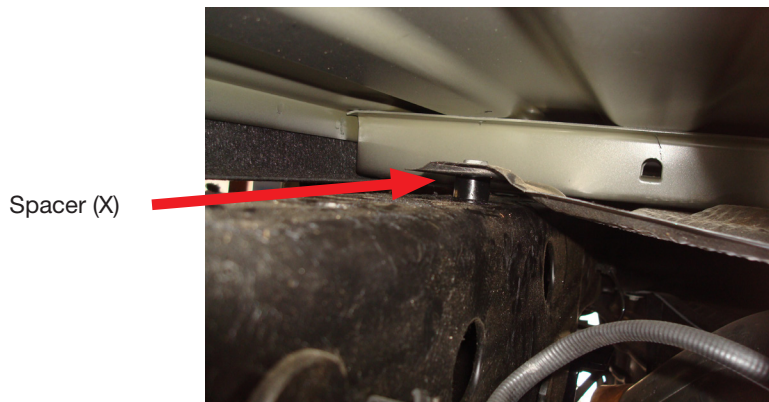

fig. 12
2. Set spacer (X) between the frame and heat shield and reattach the heat shield with the stock bolt previously removed (Fig. 12).